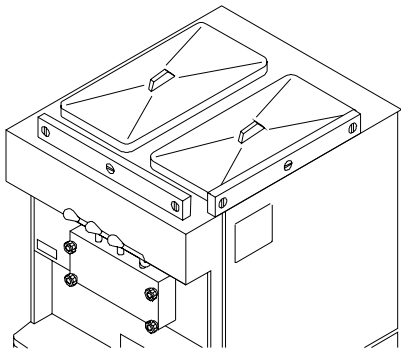
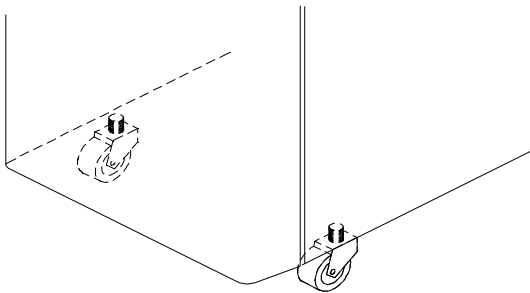

Figure 5. Leveling Freezer
Figure 6. Caster Adjustment
- C. Accurate leveling is necessary for correct drainage of freezer barrel to insure correct over-run and flow. Place a spirit level on top of the freezer at each corner to check for level condition (Fig. 5). If adjustment is necessary, level the freezer by turning the casters in or out (Fig. 6).